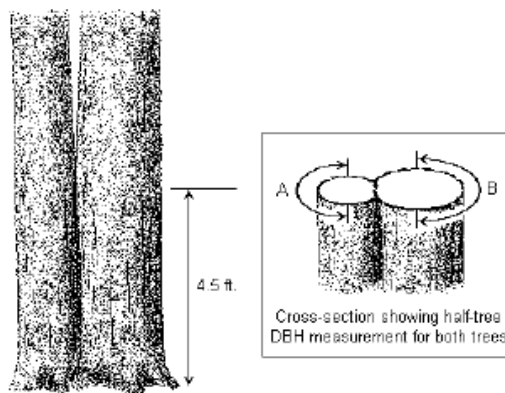

Figure 4 - Measuring DBH on Trees Growing Together
2. Trees Growing Together: On trees that have grown together, count as two trees. Measure halfway around each, then double each measurement (Figure 4).